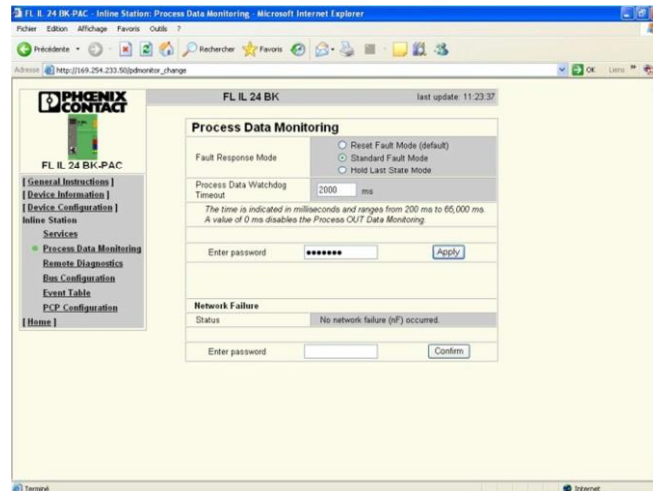

Figure 12. Watchdog configuration.
16. Click on « Apply » (see Figure 12).